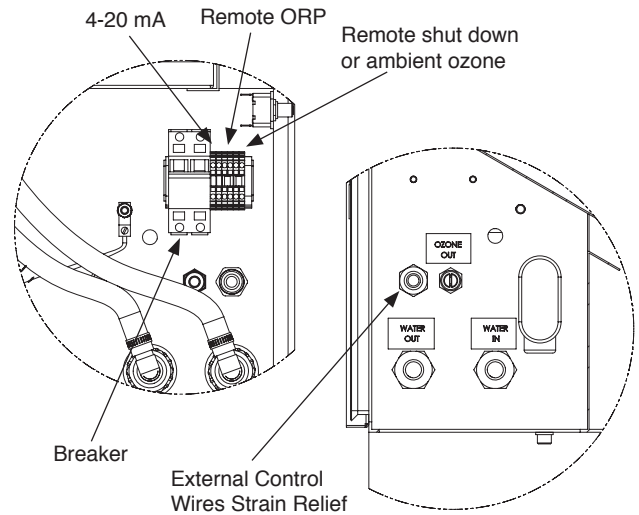
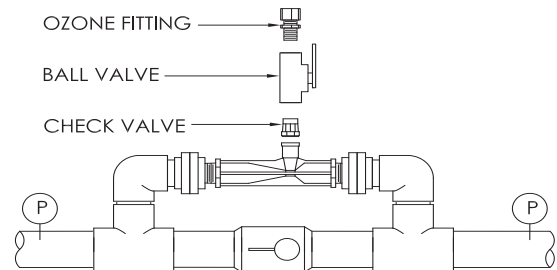

Figure 1: Generator Connectors
Figure 2: Injector Assembly
3. Connect Water In/Out: ½" FPT fittings are provided on field connection panel as shown in **Figure 1**. Plumb the cooling water from a clean, filtered source using copper, Teflon, or PVC tubing. **DO NOT USE WATER HIGH IN CHLORIDE!** Flow requirements for each unit are listed in the specifications label on the inside of the cabinet door.
4. Connect Ozone Out: A ¼" FPT stainless steel fitting is provided on the field connection panel as shown in **Figure 1**. Plumb the ozone output to the injector assembly input via a stainless steel ball valve and check valve. **See Figure 2**. Ozone supply tubing must be constructed of 316 stainless steel or rigid Teflon tubing. Use of any other material will lead to failure of the tubing and cause vacuum loss or allow ozone to escape the system.
5. **Electrical Connection:** Connect input power and ground to the main circuit breaker and din rail terminal located on the inside of the field connection panel (*See Figure 1*). Power requirements for each generator are listed in the specifications label on the inside of the cabinet door.